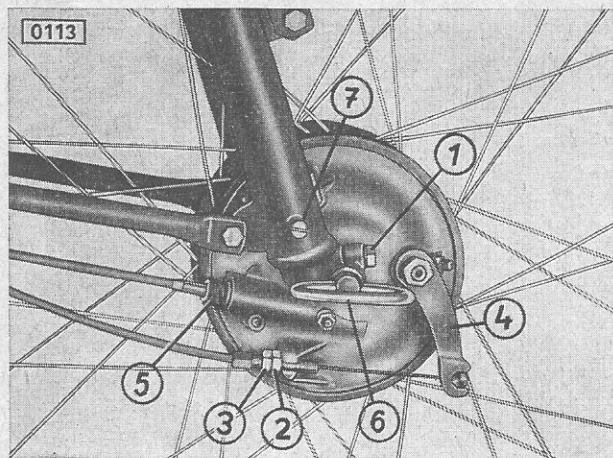

Fig. 13: Dismantling the front wheel:
2. Slacken binding screws at the eyes of the fork (Fig. 13/1).
3. Detach brake control cable from brake plate. Unscrew to this and the front counter nut (Fig. 13/2) of the setscrew, turn rear counter nut (Fig. 13/3) so as to slacken the cable and detach cable nipple from brake lever (Fig. 13/4) at brake plate. Then pull out setscrew and remove cable through slot of brake plate.
4. Slacken union nut (Fig. 13/5) of speedometer cable and detach the cable from brake plate.
5. Pull out lynch pin by the handle (Fig. 13/6).
Slacken counter nut (Fig. 13/2). Turn nut (Fig. 13/3) on brake adjusting sleeve until brake has good grip again. In case of excessive re-adjustment (brake slips), slacken nut on brake adjusting sleeve. Tighten counter nut.